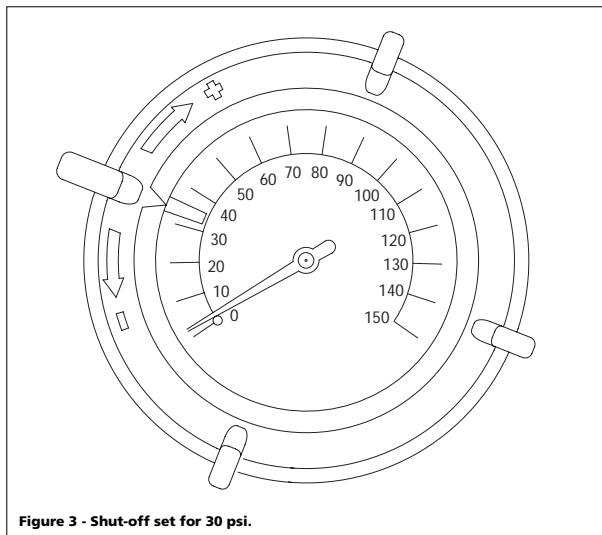

Figure 3 - Shut-off set for 30 psi.
- Set automatic shut-off gauge by turning ring on gauge until bottom edge of pointer is just above the desired pressure (see Figure 3).